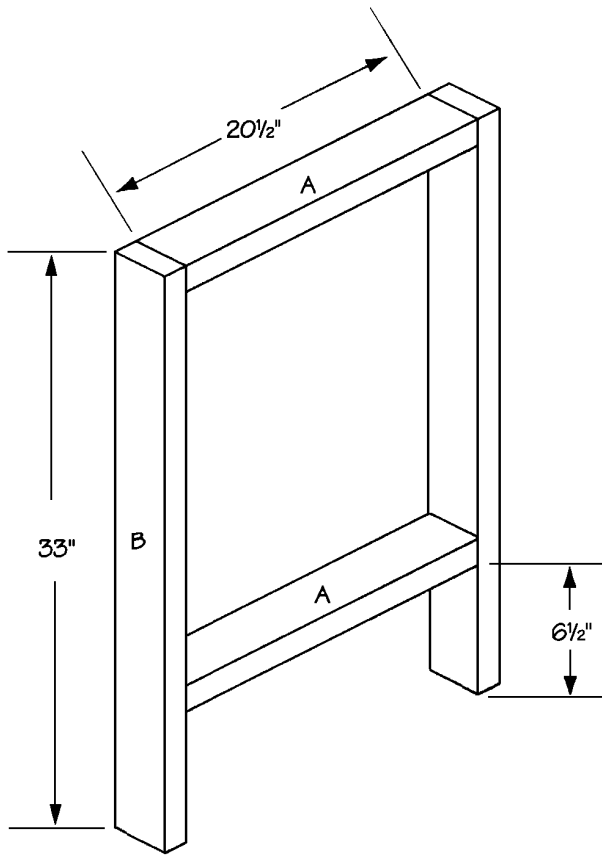

Figure 1
1. Cut four horizontal sides (A) from 2 x 4 pine, each measuring 20-1/2" long.
2. Cut four vertical sides (B) from 2 x 4 pine, each measuring 33" long.
3. To form the side supports, place two vertical sides (B) parallel to each other and 20-1/2" apart. Fit two horizontal sides (A) between the two vertical sides (B), as shown in *Figure 1*. The uppermost horizontal side (A) should be even with the top ends of both vertical sides (B), and the lower horizontal side (A) should be 6-1/2" from the lower ends of both vertical sides (B). Screw through the vertical sides (B) into the ends of the horizontal sides (A). Use